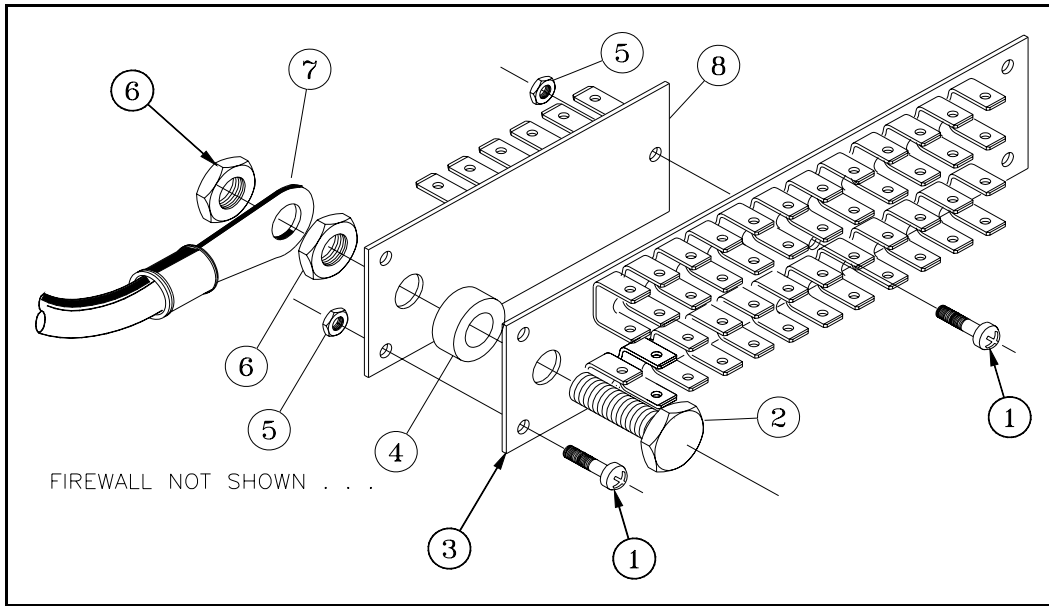

Figure 5-2. Forest of Fast-On Tabs Firewall Groundblock.
A word of caution when bolting the two busses back to back through a composite firewall. Don't depend on any intermediate composite material to maintain ground stud tension. In Figure 5-2 I've shown a brass bushing or stack of brass washers (Item 4) with a 5/16" i.d., a 3/4" o.d. and a length equal to the nominal thickness of the firewall. First, a 5/16" hole is drilled all the way through the firewall. Next, from the cockpit side, a 3/4" hole is spotfaced down to the surface of the firewall sheetmetal. Make temporary installation of the small ground bus (8) on the firewall using bolt (2), bushing or spacing washers (4) and one nut (6). Use ground bus (8) as a drill guide to make three #18 holes all the way through. Remove ground bus and reinstall all hardware with large ground bus (3) inside, bushing (4) in firewall, small ground bus (8) under cowl. Hold all this stuff in place with three screws (1) and nuts (5). Small hardware is for anti-rotation only; don't put a lot of torque on these fasteners-- just snug 'em up.